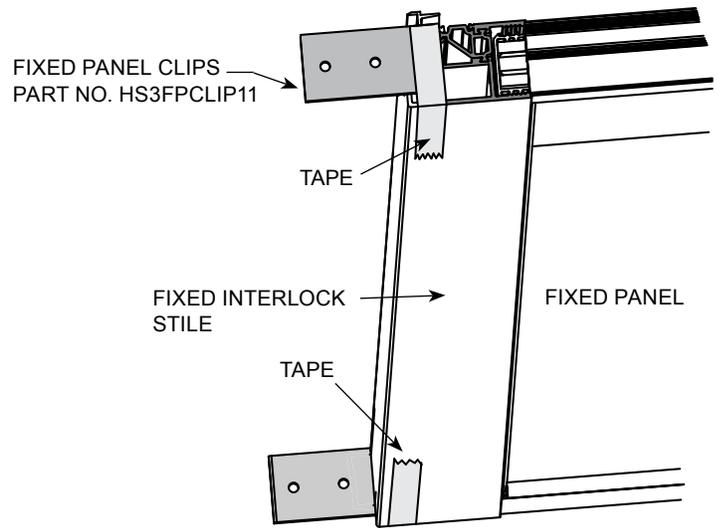

FIG. 20
2. Attach two Part No. HS3FPCLIP11 L-shaped anchor clips to the fixed interlock. Insert and temporarily tape the fixed panel clips in place on the outside top and bottom of the fixed interlock. (FIG. 20)